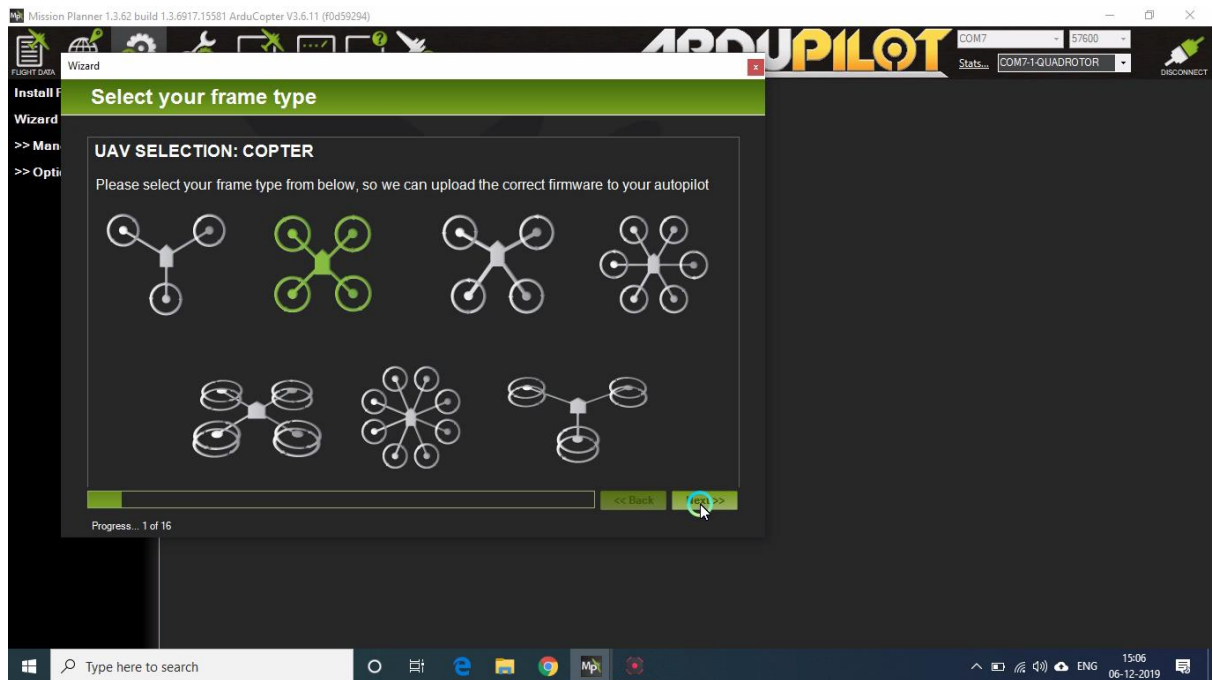

Fig.4.4
- Now, go to initial setup and click wizard. Then, select the frame type (Quad) and click next. Refer Fig.4.4.